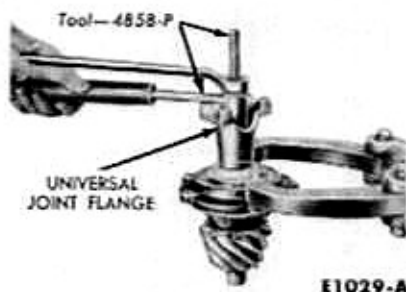

FIG. 23—U-Joint Flange Installation
5. Install the U-joint flange (Fig. 23).